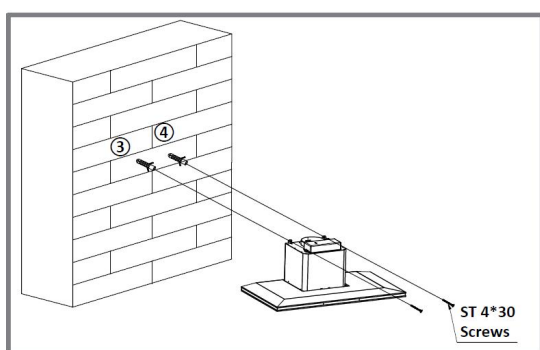
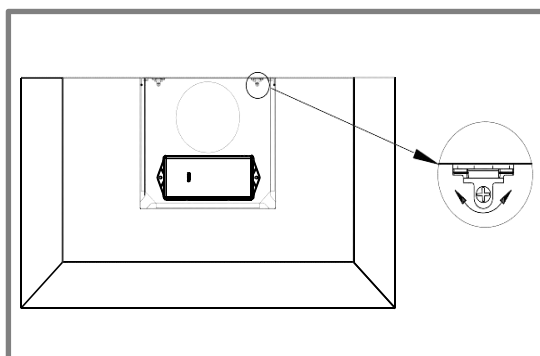
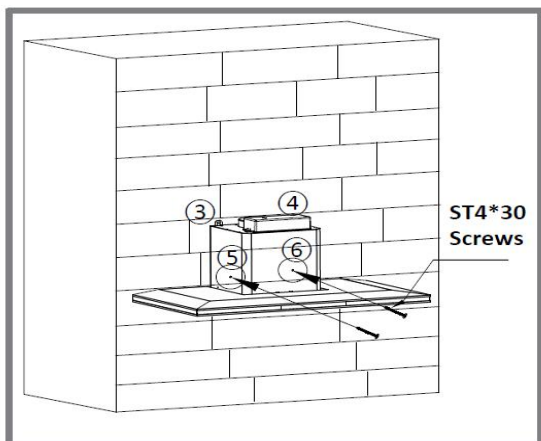

Fig.7
Fig.7.1
Fig.7.2
Step 2 (Fig.7, Fig.7.1, Fig.7.2)
- Mount the appliance onto the wall and do ensure that it is properly engaged with the mounting screws 3 & 4 (Fig.7)
- If there is a need to realign the appliance, adjust the screws on the top of the motor housing (Fig.7.1)
- Tighten the screws 3, 4, 5, 6 firmly after realignment. (Fig. 7.2)